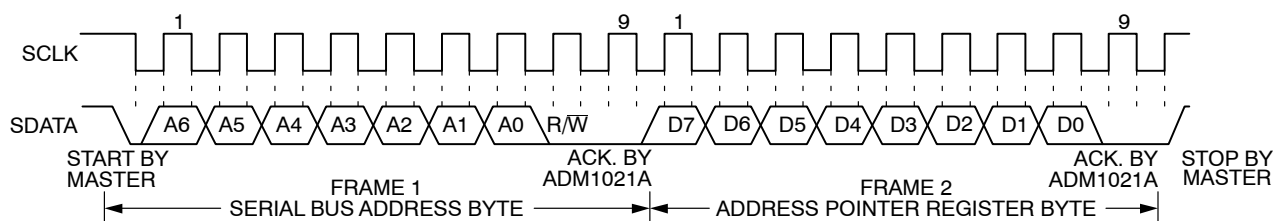
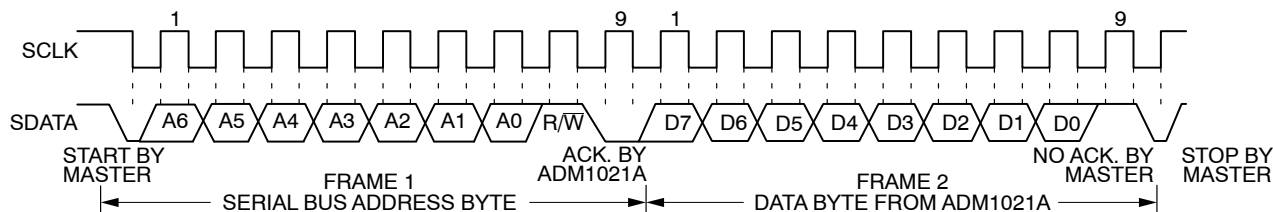

Figure 15. Writing to the Address Pointer Register Only
Figure 16. Reading Data from a Previously Selected Register
1. If the ADM1021A's address pointer register value is unknown or not the desired value, it is first necessary to set it to the correct value before data can be read from the desired data register. This is done by performing a write to the ADM1021A as before, but only the data byte containing the register read address is sent, because data is not to be written to the register. This is shown in Figure 15. A read operation is then performed consisting of the serial bus address, R/W bit set to 1, followed by the data byte read from the data register. This is shown in Figure 16.
2. If the address pointer register is known to be already at the desired address, data can be read from the corresponding data register without first writing to the address pointer register, so Figure 15 can be omitted.